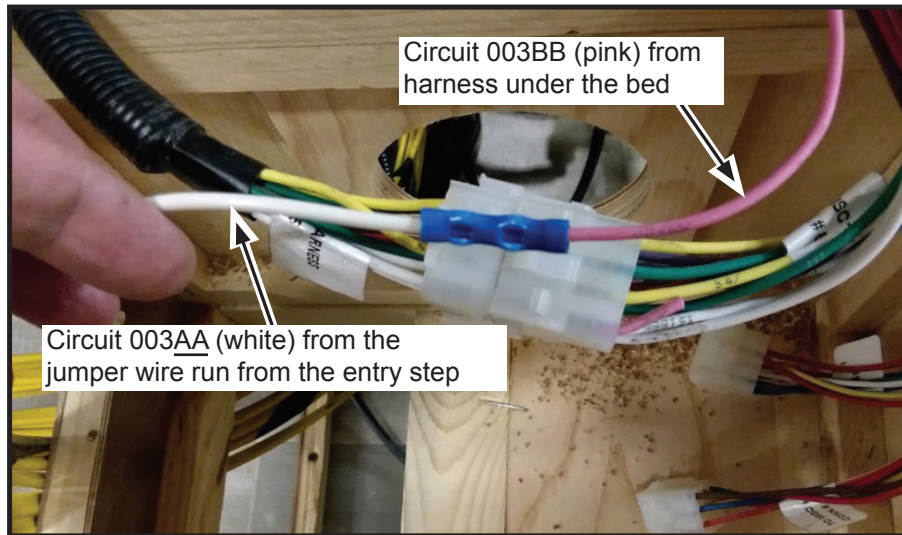

Figure 13
15. Strip 3/8" from the free end of circuit 003BB (pink) that was disconnected in Step 14. Also strip 3/8" from the free end of the white 16 gauge jumper wire (Circuit 003AA) that has been routed from the entry step. Crimp the wires together with the provided blue butt connector. Wrap the connection with 3 half-lapped layers of electrical tape after crimping. Refer to Figure 13.